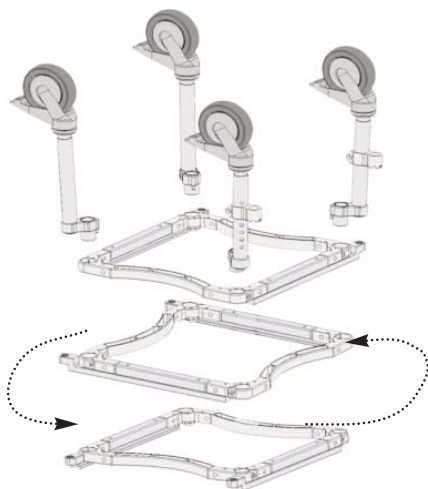

Figure 9
- 1) Remove the roll-in section legs from the frame (Refer to Figure 9)
- 2) Rotate the frame 180 degrees (Refer to Figure 9)
- 3) Re-install the legs (Refer to Figure 9)